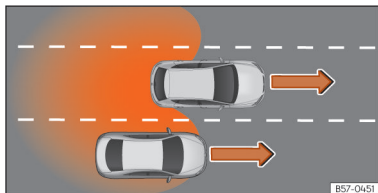

Fig. 120 Overtaking in the central lane and then joining the right lane.
- When overtaking another vehicle »» **Fig. 120** with a speed difference of approx. 10 km/h (6 mph). If the vehicle is passing at a considerably higher speed, no indication will be displayed.